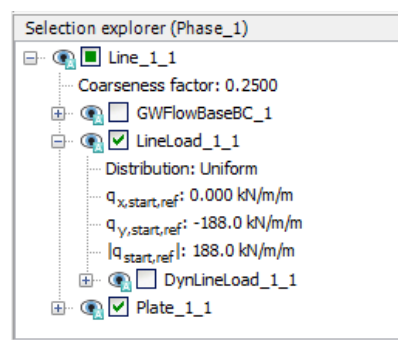

Figure 1-25: Definition of the load components in the Selection explorer
- 6 In the **Selection explorer** shown in Figure 1-25 \(p. 35\) assign -188 kN/m^2 to the vertical component of the line load. Note that, this gives a total load that is approximately equal to the footing force that was obtained from the first part of this tutorial. $(188 \text{ kN/m}^2 \cdot \pi \cdot (1.0 \text{ m})^2 \approx 590 \text{ kN})$.